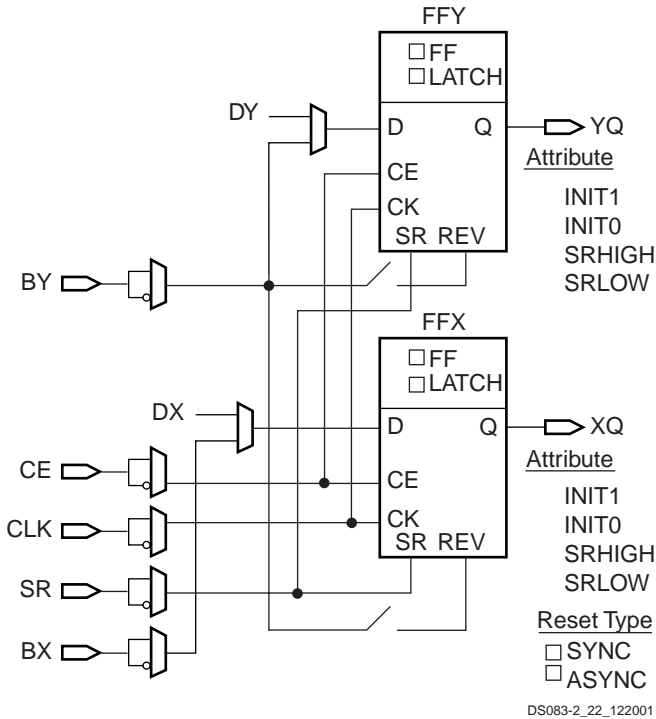

Figure 37: Register / Latch Configuration in a Slice
In addition to clock (CK) and clock enable (CE) signals, each slice has set and reset signals (SR and BY slice inputs). SR forces the storage element into the state specified by the attribute SRHIGH or SRLow. SRHIGH forces a logic 1 when SR is asserted. SRLow forces a logic 0. When SR is used, an optional second input (BY) forces the storage element into the opposite state via the REV pin. The reset condition is predominant over the set condition. (See Figure 37.)